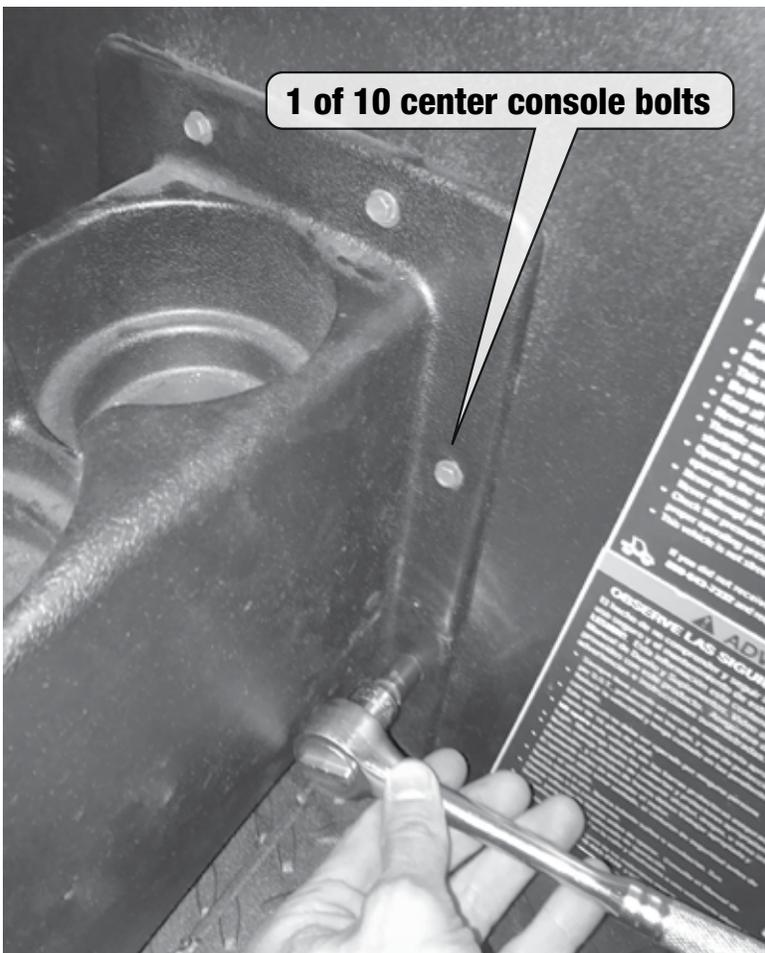

fig. 3
- 4** Using the 5/16" socket, remove the ten bolts securing the center console as shown in **figure 3**. Lift and slide the console off to the right out of the way.